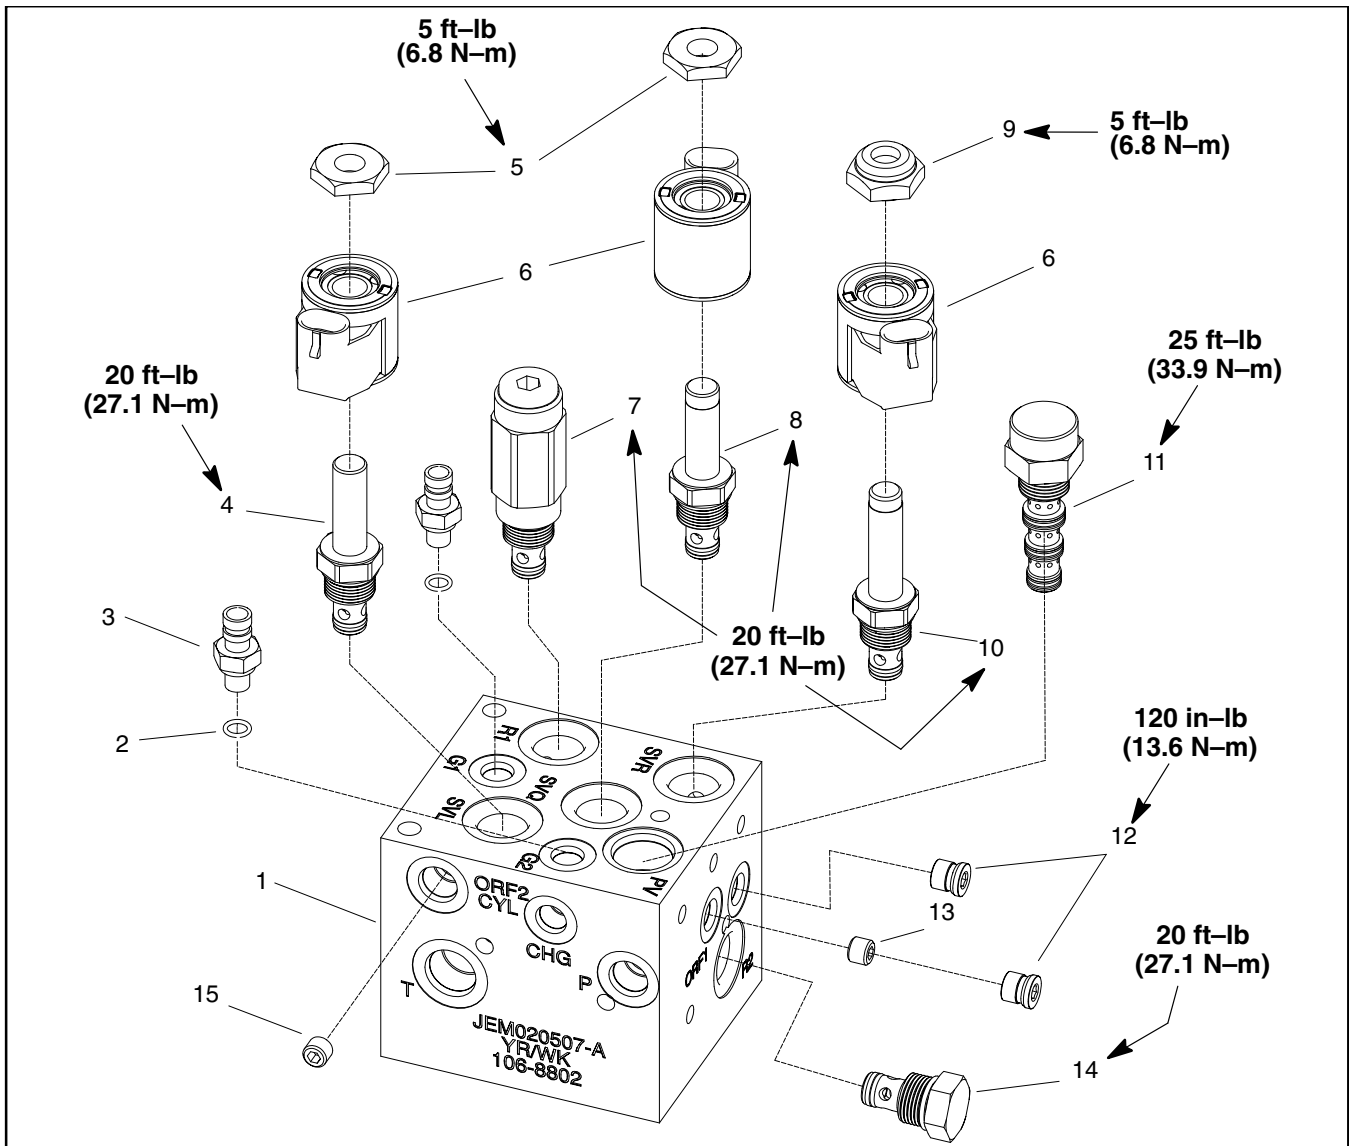

Figure 40
- C. Torque cartridge valve using a deep socket to valves identified in Figure 40.